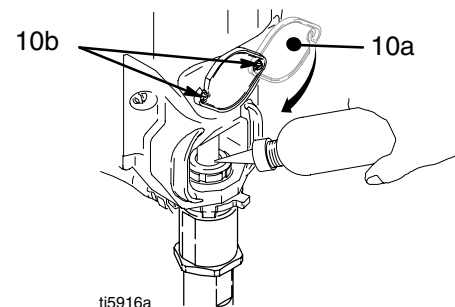

Fig. 14
7. Fig. 14. Fill packing nut with Graco TSL until fluid flows onto top of seal.